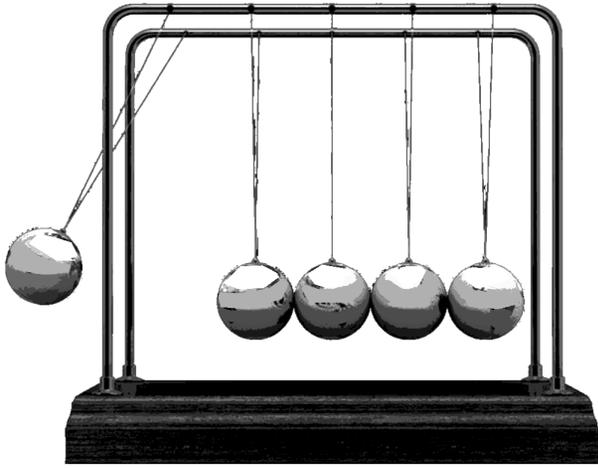

Figure A1-7
- b. AC: Electrons get moved from point A to point B, and then from B back to A. See Figure A1-7.